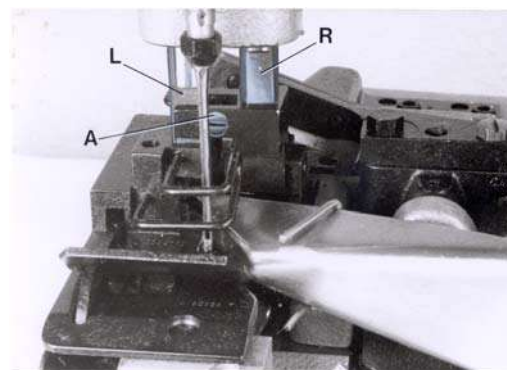

Fig. 10
Styles 80800TL, TAL, U, UA, UL and UAL have a two-piece presser foot. Insert the right presser foot part on the pivot of the right presser bar (R, Fig. 10) and align the flats on the left presser bar (L, Fig. 10) to the guide fork of the presser foot shank. The flats on the left presser bar should slide freely in the fork, this can be adjusted with screw (A). Secure this setting with the lock nut. Now insert the left presser foot part on the pivot of the left presser bar (L) and align it with needle slot and feeler slot to the throat plate. Tighten set screws in both presser foot shanks.